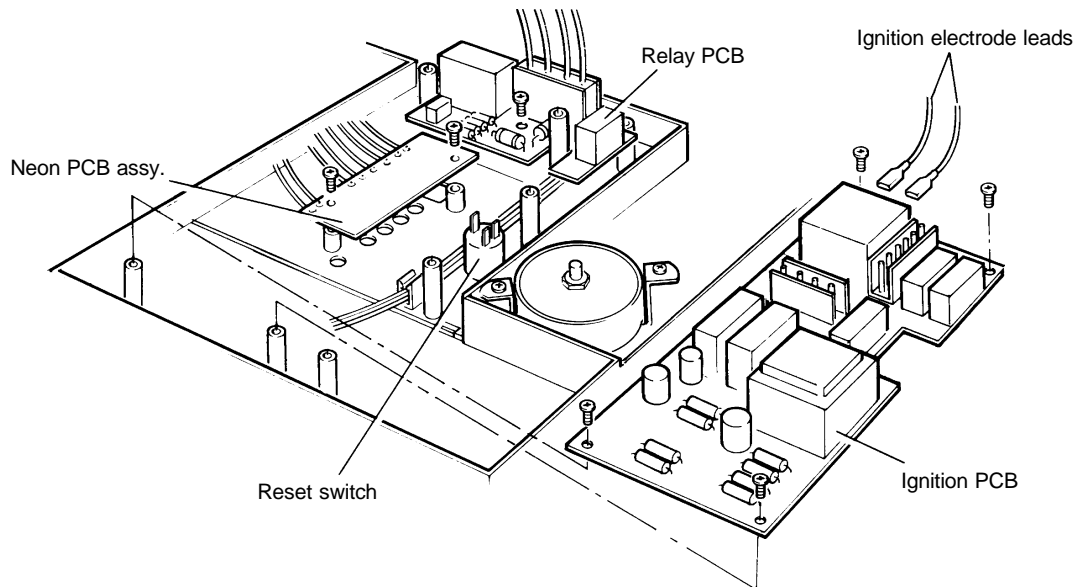

Fig. 27 - Alpha 240E and 280E
8.18 IGNITION PCB (Alpha 240E and 280E only) - Refer to Fig. 27
8.19 NEON ASSEMBLY (Alpha 240E and 280E only) - Refer to Fig. 27
8.20 RELAY PCB - Refer to Fig. 27 or 28
8.21 RESET SWITCH (Alpha 240E and 280E only) - Refer to Fig. 27